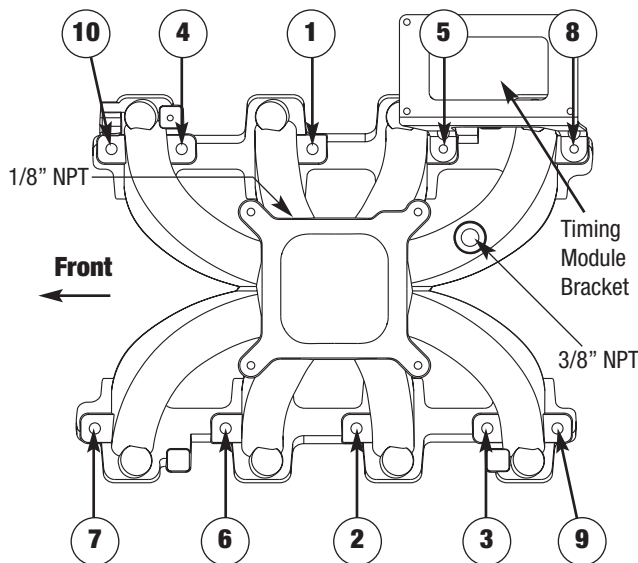

Figure 1 - Intake Manifold Tightening Sequence
3. Following the torque sequence in **Figure 1**, torque all manifold bolts to 11 ft/lbs.
5. (#2908 Only) Apply a bit of liquid Teflon thread sealant to the threads of the supplied 1/8" NPT to 1/4" hose fitting and install the fitting into the 1/8" NPT hole in the passenger side of the plenum (See **Figure 1**). Install your carburetor and using the rear passenger side carburetor stud/nut, attach the MAP sensor and bracket to the carburetor (See **Figure 3**). Connect the sensor to the fitting with the supplied 1/4" hose.